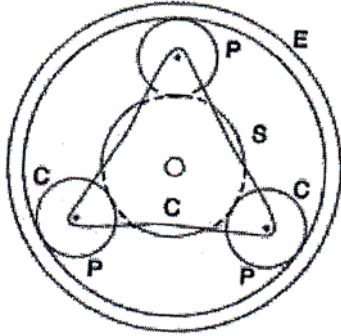

Figure 2
12. An epicyclic gear train (Fig. 2) consist of a sun wheel S, a stationary internal gear E and three identical planet wheels P carried on a star shaped planet carrier C. The size of different toothed wheels is such that the planet carrier C rotates at  $1/3^{\text{rd}}$  of the speed of the sun wheel S. The minimum number of teeth on any wheel is 20. The driving torque on the sun wheel is 200 Nm. Determine :